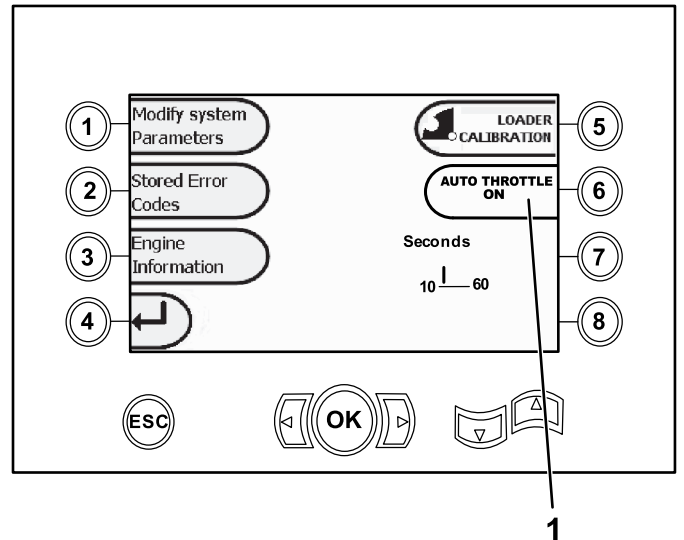
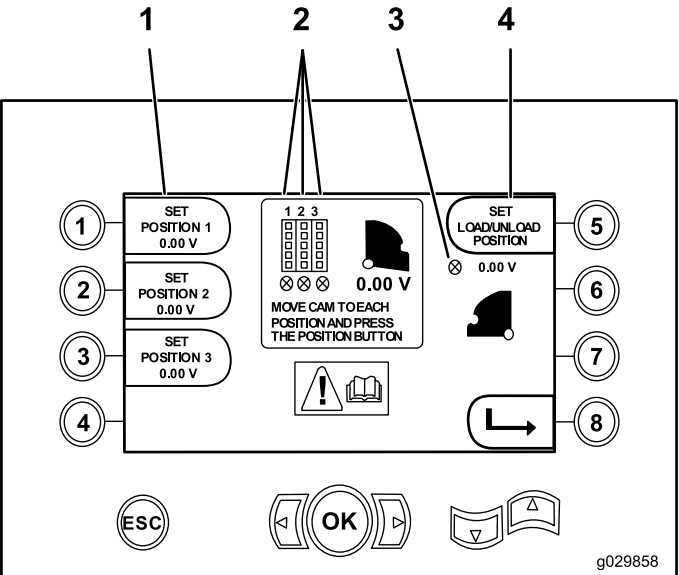

Figure 18
Figure 26
Software versions K and up only: use this screen to calibrate the loader cams (Figure 18) as described in Figure 26.
Software versions V and up only: use this screen to the auto throttle option (Figure 18).
To access this screen, press button number 1 in the Diagnose and Update Screen \(page 7\) to select Modify System Parameters (Figure 18).
- Button 1—Set position 1 (Figure 26)
- Button 2—Set position 2 (Figure 26)
- Button 3—Set position 3 (Figure 26)
To set the load or unload position, press button number 5 (Figure 26).